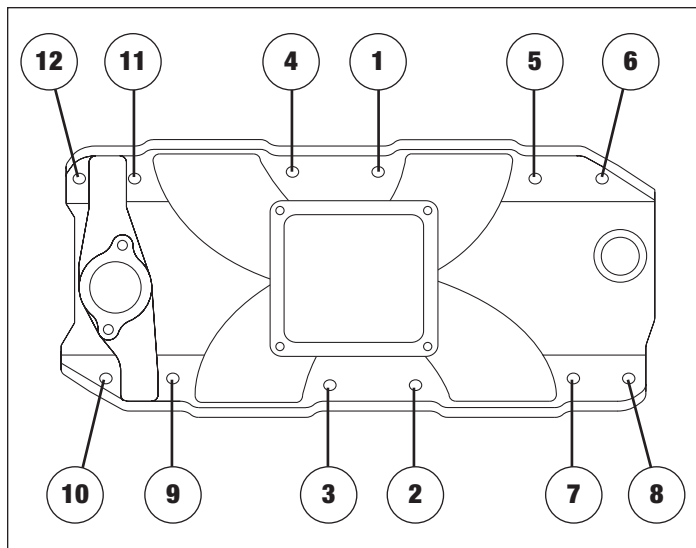

Figure 1 - 396-502 C.I.D. Chevrolet Bolt Torque Sequence
- **MANIFOLD TORQUE:** Torque the manifold bolts to 25 ft-lbs in small, even steps, following the recommended torque sequence (**See Fig. 1**). If you cannot fit a torque wrench on some of the bolts, use a small box end wrench to avoid over tightening.
- 5.)** Snug all of the manifold bolts in the sequence shown in **Figure 1** then torque them to 25 ft-lbs in the same sequence.